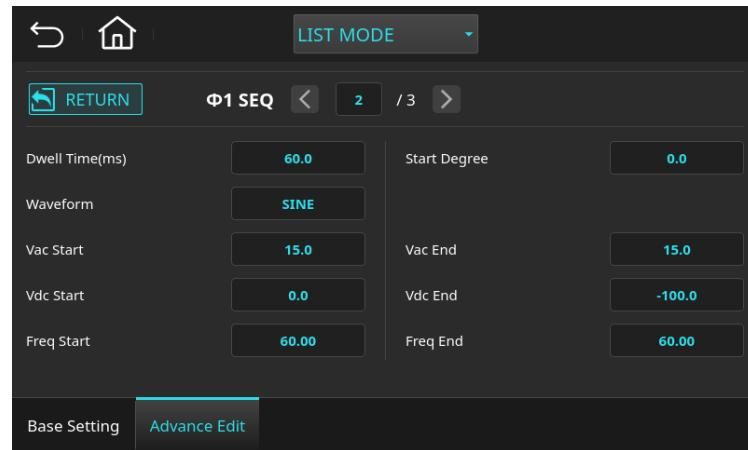

Figure 5-8 List Mode Setting Page (Example Parameters for Phase 1 – Sequence 2)
4. Select Φ1 SEQ2, tap the Edit button **EDIT**, and edit the parameters as shown in Figure 5-8.